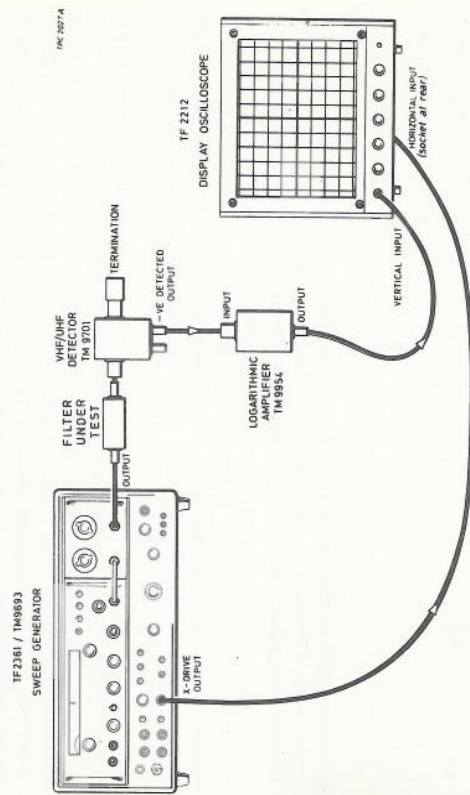
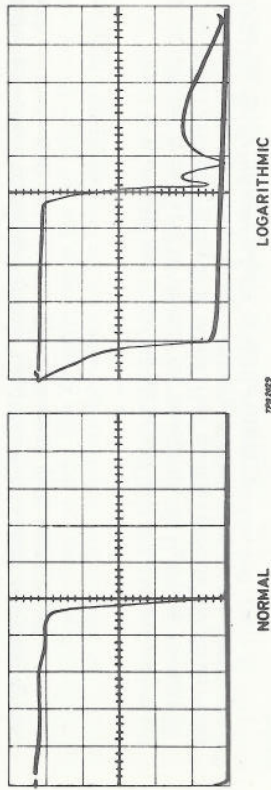

Fig. 2.1 Set-up for frequency response measurement.
Fig. 2.2 Typical Low-pass filter response.
The logarithmic amplifier is ideal for filter or attenuator response measurements (see Fig. 2.1 for equipment set-up) and amplitude against frequency measurements involving low levels or wide dynamic ranges of r.f. signal. At the points where such responses are a large number of dB below the reference level (e.g. 60 dB), details can be seen that are lost on a normal display - see Fig. 2.2.
Before making a measurement the logarithmic law of the instrument should be correctly set up. The procedure is in two parts, baseline calibration and bottom limit calibration. Baseline calibration is the coarser part and should thus be performed first. Bottom limit calibration is the finer and need not be performed at all if only the top 40 dB part of the dynamic range is to be looked at. The operations are described with reference to the simple equipment set-up shown in Fig. 2.1.
- (1) With the equipment connected as shown in Fig. 2.1 (ensuring that the detector is loaded if d. c. return is not provided by the sweep generator) set the LOG/DIRECT switch to DIRECT and align the baseline level on the DISPLAY OSCILLOSCOPE (i. e. the flyback trace) with a convenient graticule line.
- (2) Set the LOG/DIRECT switch to LOG, the FINE BALANCE control to mid-position and adjust the PRESET BALANCE control to bring the baseline level trace to the same position as in (1). Generator noise during retrace may alter baseline level; therefore, insert attenuation on the sweep generator, until further attenuation has no effect on baseline position (usually less than 30 dB will suffice). The PRESET BALANCE control is a multi-turn control and to adjust it you will need a small screwdriver (or trimming tool) that easily fits into the hole in the case that gives access to it.